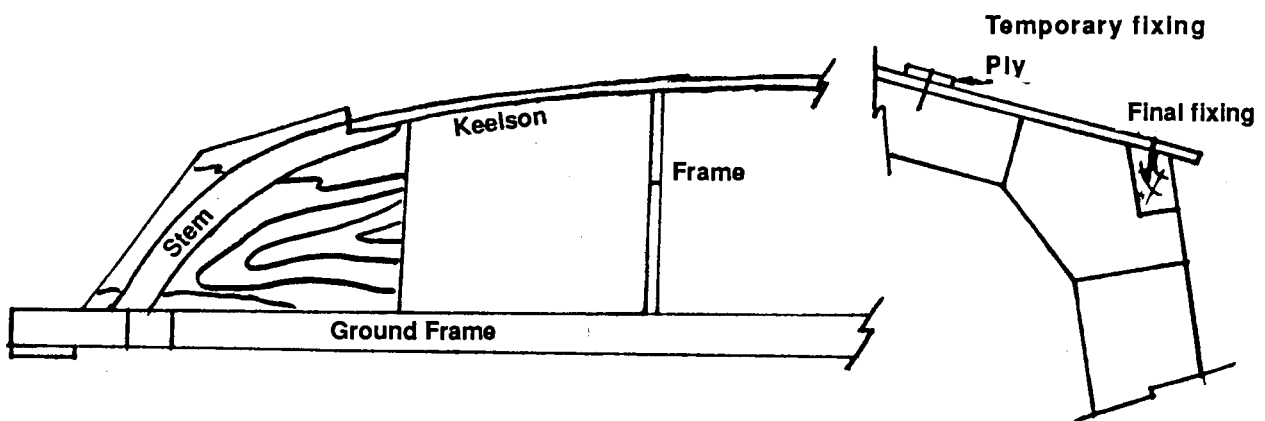

Fig 4.2: Note that the stem is marked out on the larger sheet of ply
4. Lay the two pieces of 75mm X 50mm on the floor with the planed face down and screw or nail two pieces of 150mm X 19mm onto them so that a long frame 600 wide is made. Turn the frame over with the prepared face up as shown in Figure 4.2 over.